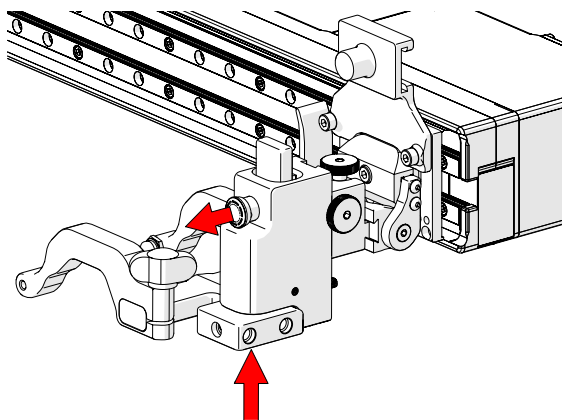
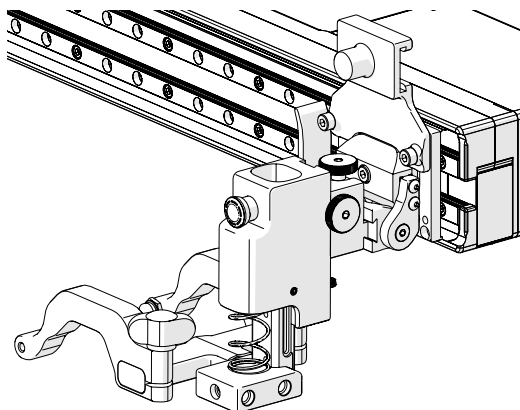

Fig. 125 - Press up and pull latch
Fig. 126 - Lowered toward scan surface
10. Gently lift the heavy duty vertical probe holder and simultaneously pull the latch (Fig. 125). This action will unlock the probe holder. Slowly lower the probe holder towards the scan surface (Fig. 126).